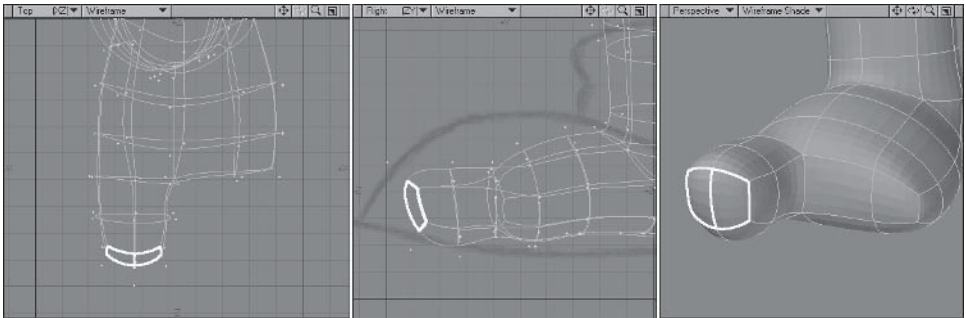

Figure 5.4-57. Finished big toe.
3. **Extend** again, moving the polygons forward, and adjust to match Figure 5.4-57.